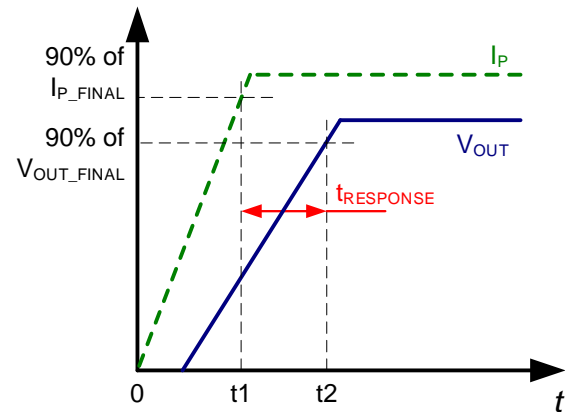

Figure 7: Response Time ($t_{RESPONSE}$)
2. t_2 : V_{OUT} reaches 90% of its final value, as it corresponds to the applied primary current (see Figure 7).